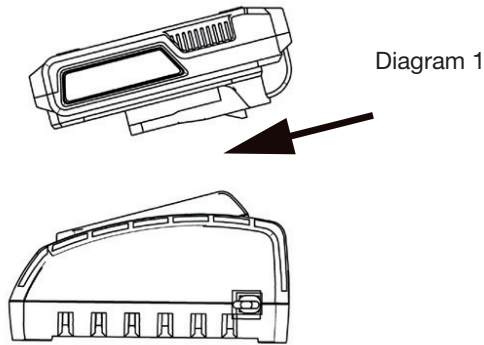

Fig.1
- b) Insert the battery (1) into the charger, until it clicks into the locked position (Fig.1).
- c) Frequently monitor the charger and battery (1) while charging.
- e) Remove the battery (1) from the charger when it is fully charged and unplug the charger from the mains.
- f) To remove the battery (1) from the charger, press the release button (2) on the battery (1) and push the battery (1) out.
- g) Let the battery (1) cool down before use.